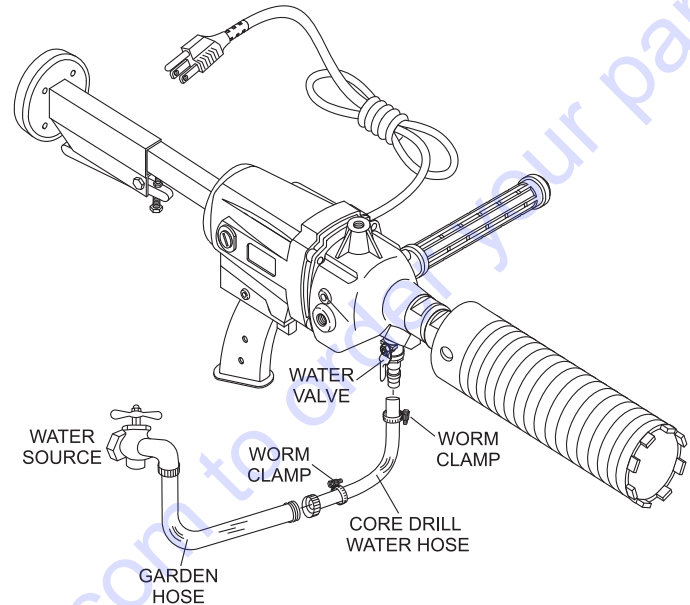

Figure 7. Connecting the Water
3. Connect the core drill's AC power cord to a 115 VAC wall receptacle (Figure 7) that is protected by a 20 amp circuit breaker. For best results connect the power cord to a GFCI receptacle.